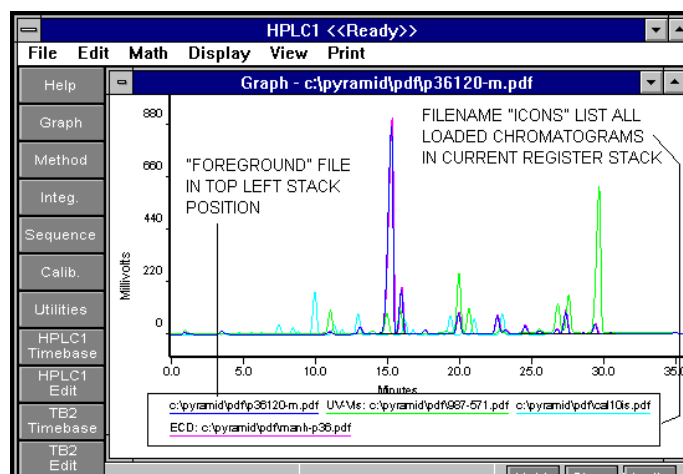

Figure 7.5 Chromatograms Loaded into Register Stack
- **Stack Position:** Data Ally allows up to sixteen chromatogram files to be loaded into any Graph window. As each new file is loaded, it is placed in a "stack" of current chromatogram files (Figure 7.5). The first file in the stack is termed the "foreground" file. Only the foreground file position in the stack can be used for baseline editing, or for display of baseline or other integration codes and annotations, to prevent confusion. Any loaded file can be selected for editing or displaying other attributes such as baseline codes or peak names, but the desired file must be moved to the "foreground" position in the stack for this to be possible.